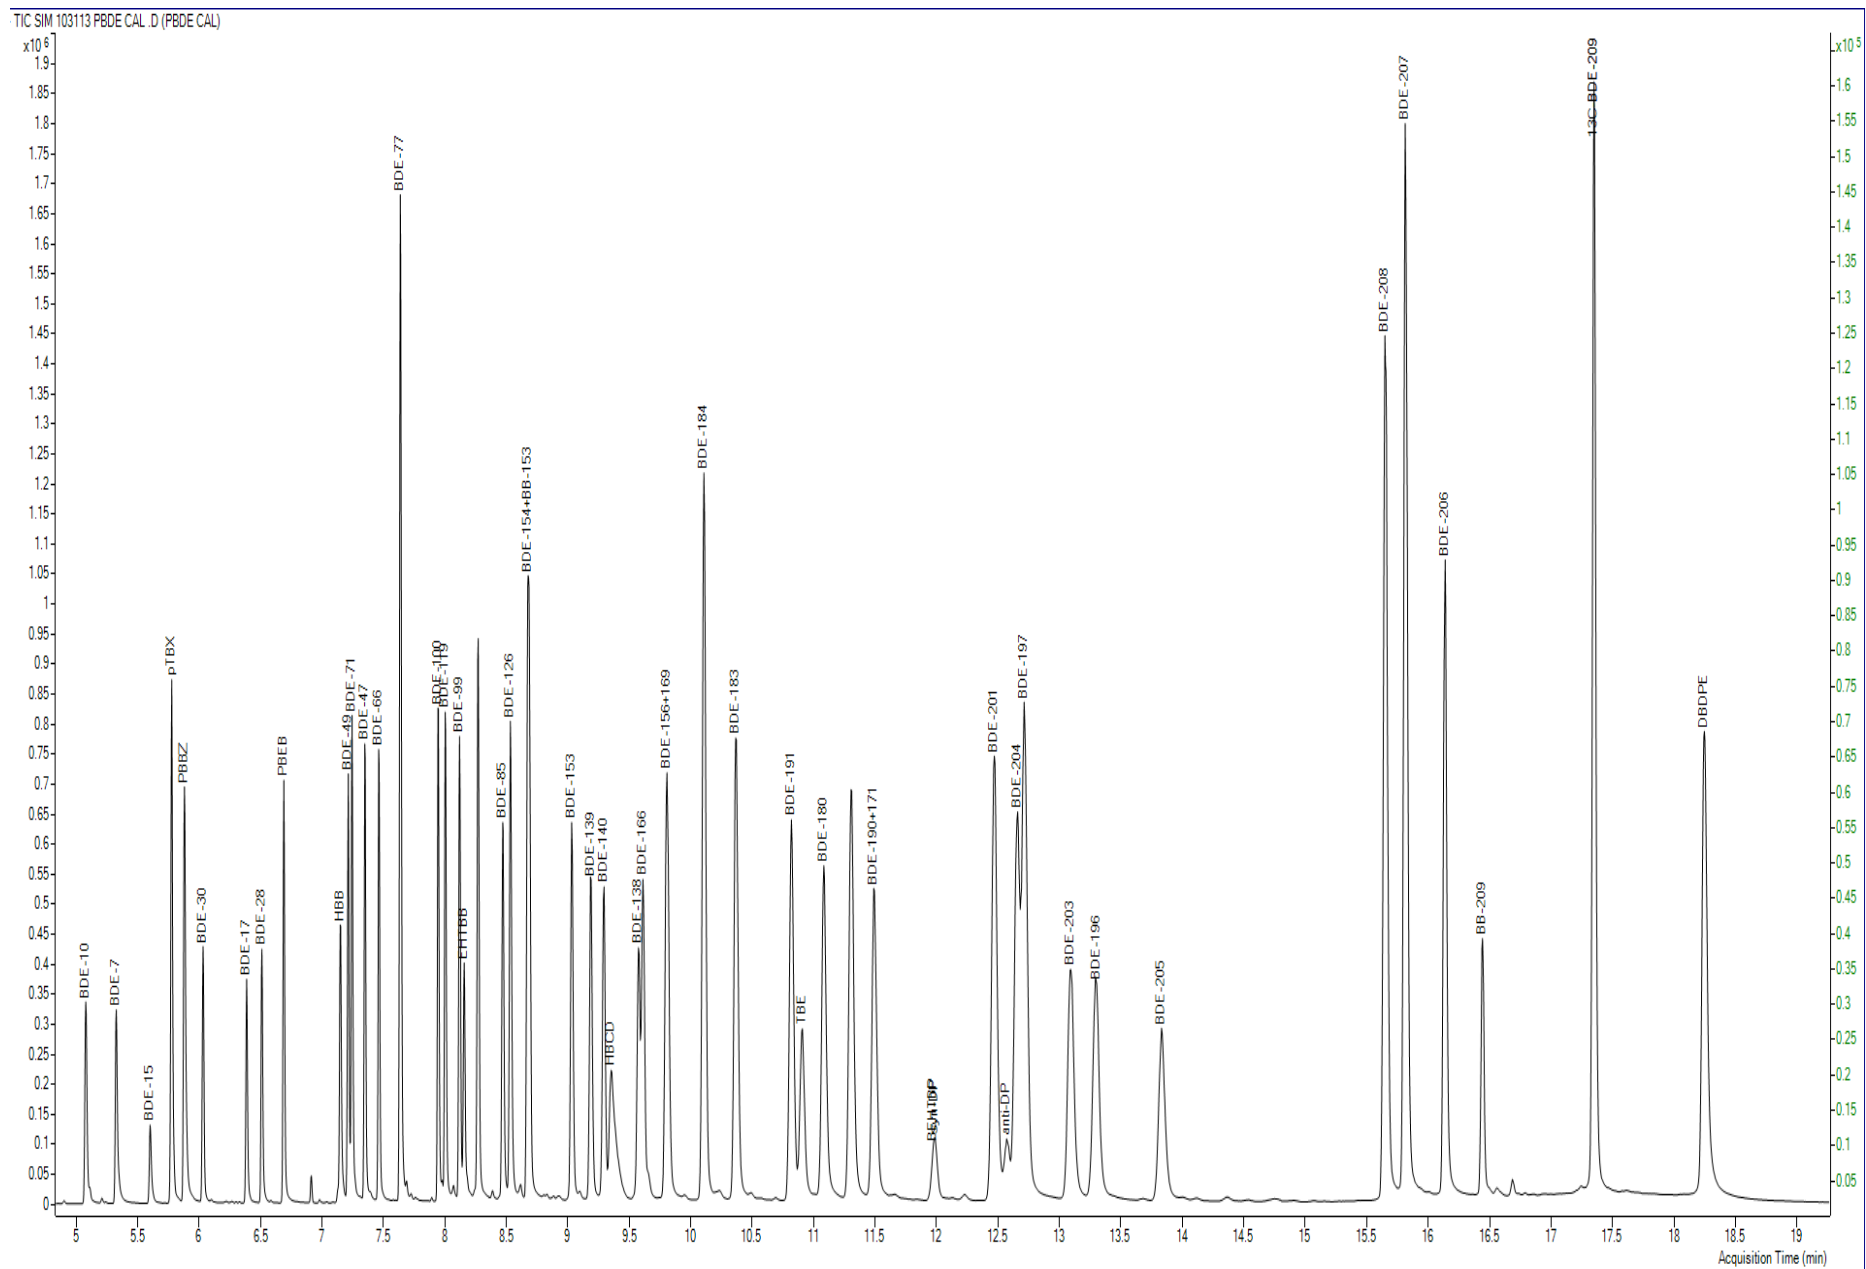

Figure 3. Example of a BFR calibration standard chromatogram.
4. Example Chromatograms from acquisition (Figures 3 & 4)